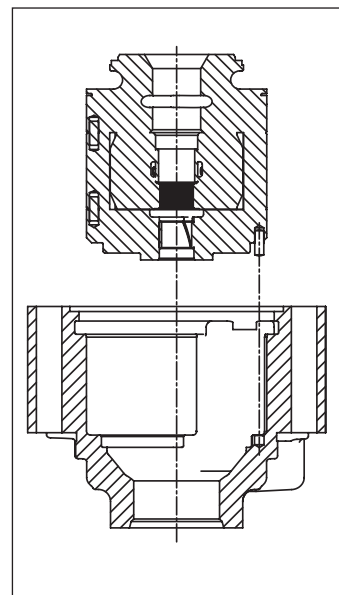

Figure 45
! WARNING: If you want to reassemble a new cartridge (**Fig. 45**).
6. Fit the cartridge into the housing (**Fig. 45**).